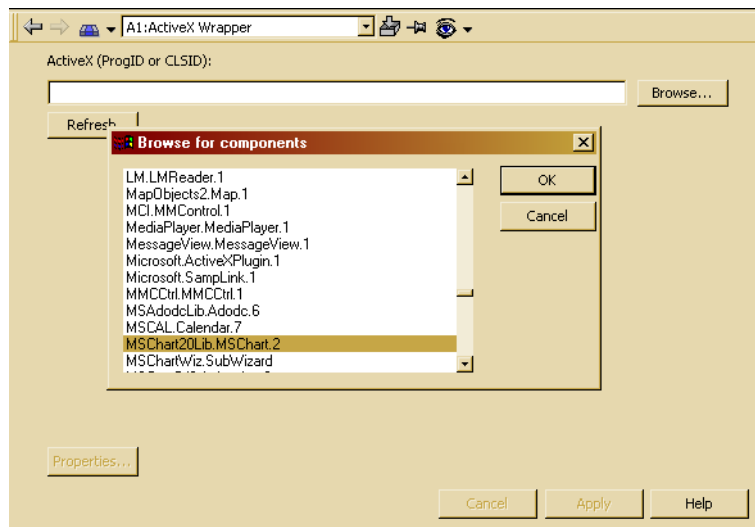

Figure 240. Browse for Components Dialog
3. Enter in the ProgID to the ActiveX Control in the **input** field, or use the Browser, as in Figure 240 (the dialog box opens).